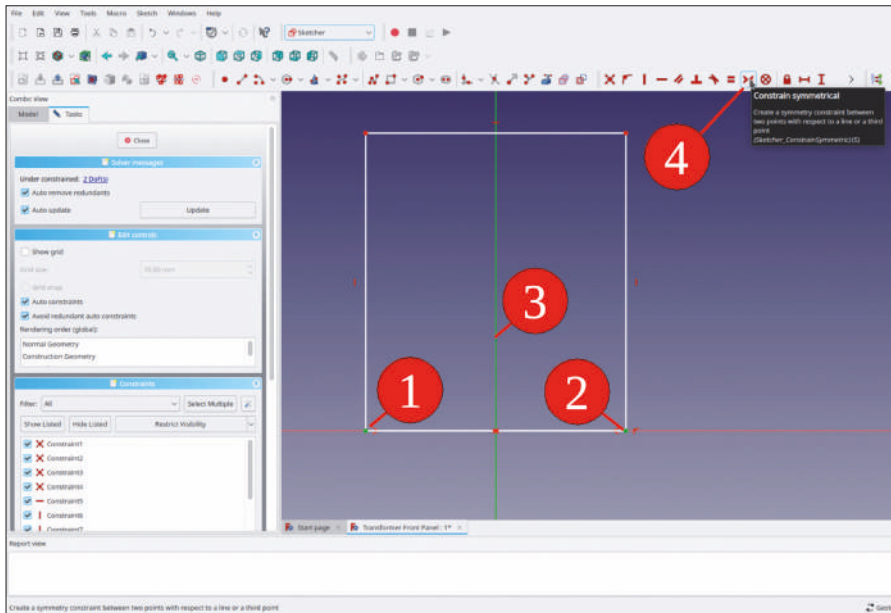

Figure 9-4
4. Mark the lower two corners of the rectangle, and the Y-axis. Then, click the 'Constrain symmetrical' tool button (Figure 9-4).